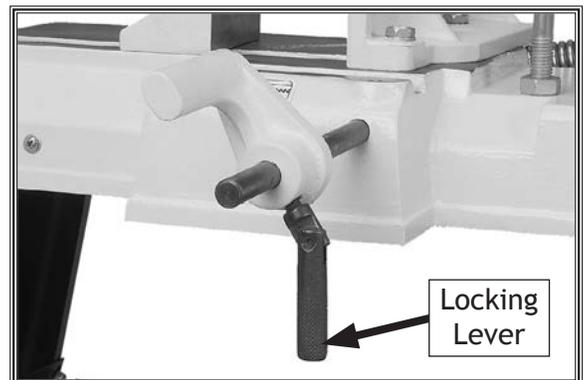

Figure 16. Work stop locking lever installed.
20. Slide work stop onto end of the shaft and lock it into position with locking lever, as shown in **Figure 16**.